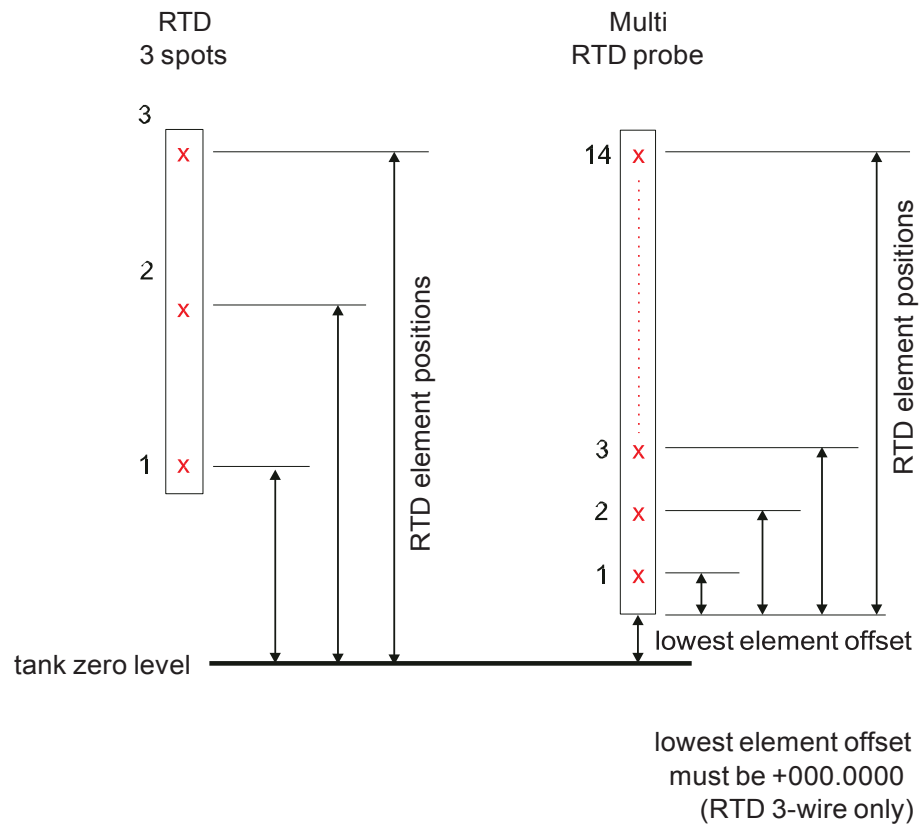
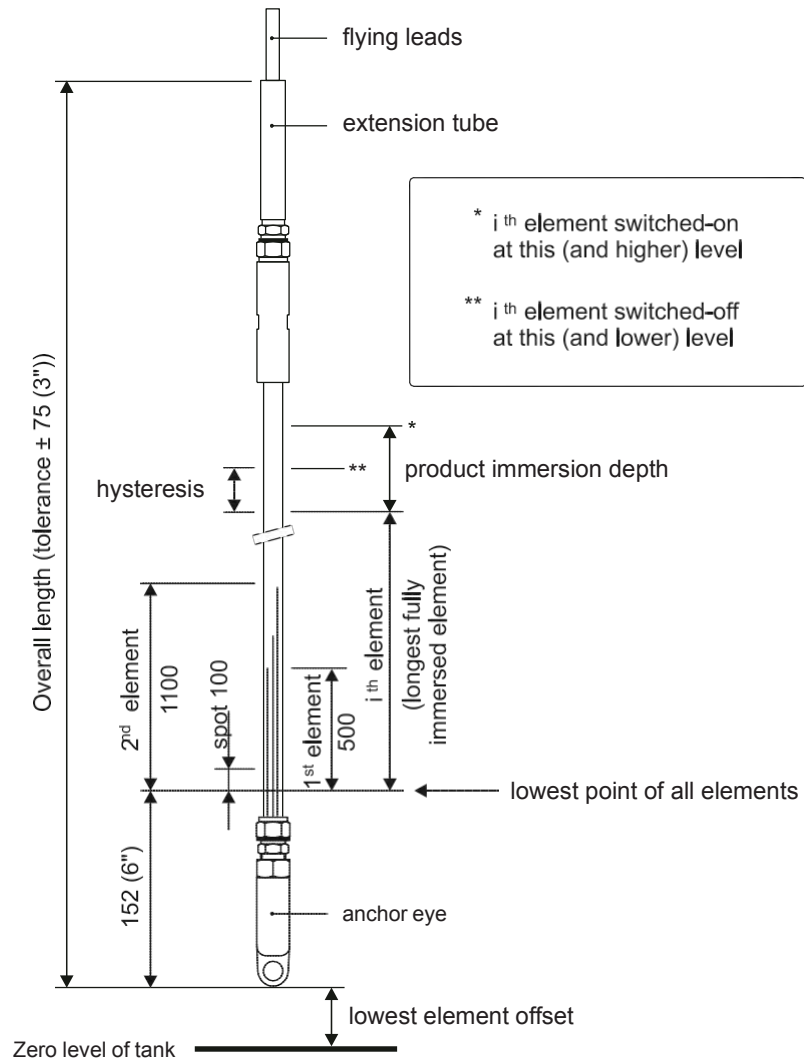

FIGURE 7-38 Resistance Temperature Detector (RTD) elements positions
FIGURE 7-39 Multiple Resistance Thermometer (MRT) parameters
See FIGURE 7-38 and FIGURE 7-39.
- RTD 3 spots (see FIGURE 7-38 *left side*)
- Multi RTD probe (see FIGURE 7-38 *right side*)
- MRT (see FIGURE 7-39)